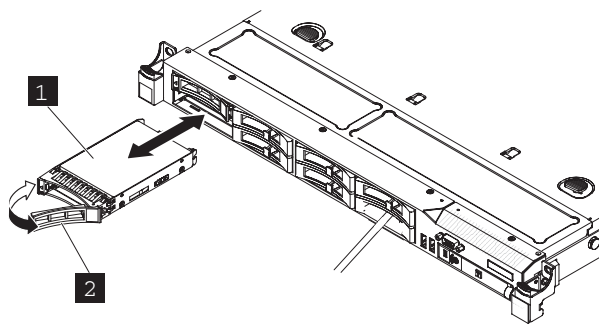

Figure 109. Solid-state drive (SSD) (SAN Volume Controller 2145-CG8 shown)
- b. Rotate the drive handle to the open (unlocked) position, as shown in Figure 109.